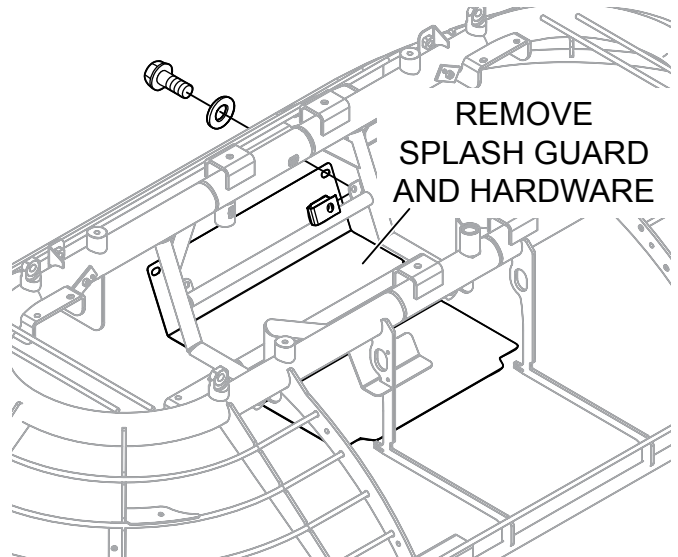

Figure 6. Remove Splash Guard
1. Remove splash pan and hardware from trowel frame. Set aside in a clean, safe place. See Figure 6